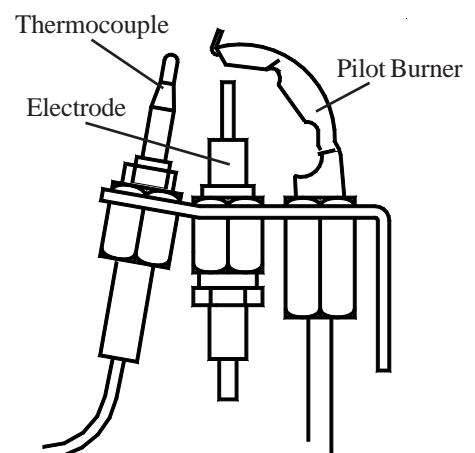

Fig. 4
- 6.3.6 Ensure that the pilot flame envelops the thermocouple tip, adjusting the Pilot Adjuster as required (Refer Figs. 4 and 5).
- 6.4.1 Referring to Table 4 and Fig. 4 below, ensure that the pressure test gauge indicates the correct burner pressure.